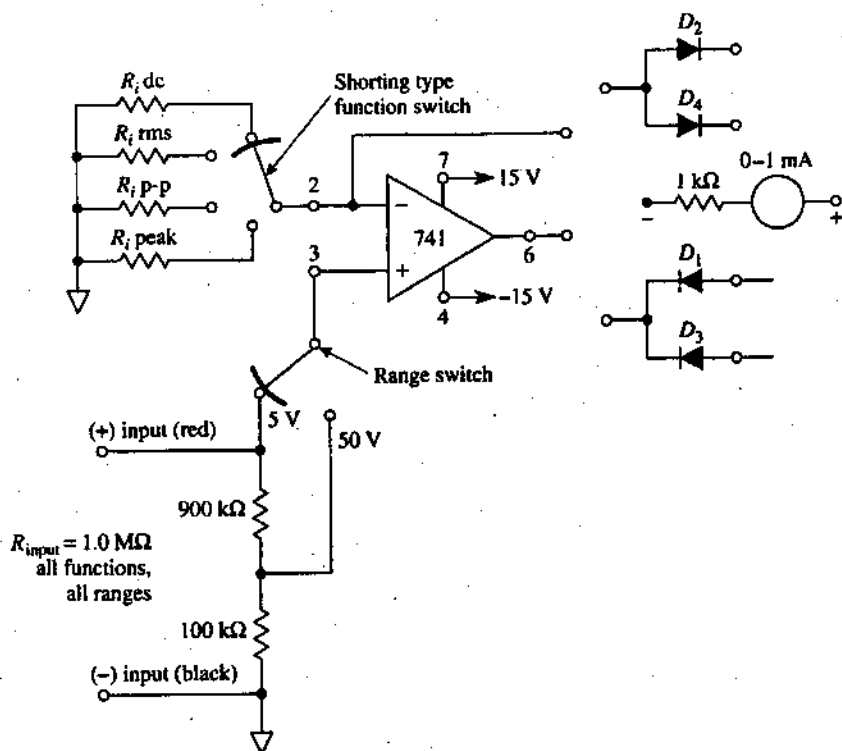

FIGURE PS-3
- 5-3. In Fig. PS-3 complete the schematic wiring between op amp, diodes, and milliammeter. The current through the meter must be steered from right to left.
- 5-4. Calculate a value for  $R_{idc}$  in Fig. PS-3 so that the meter reads full scale when  $E_i = 5$  V and the range switch is on the 5-V position.
- 5-5. Consider that the range switch is in the 5-V position in Fig. PS-3. Calculate values for the following resistors to give a full-scale meter deflection of 5 V: (a)  $R_{irms}$  for  $E_i = 5$  V rms; (b)  $R_i$  p-p for  $E_i = 5$  V p-p; (c)  $R_i$  peak for  $E_i = 5$  V peak.